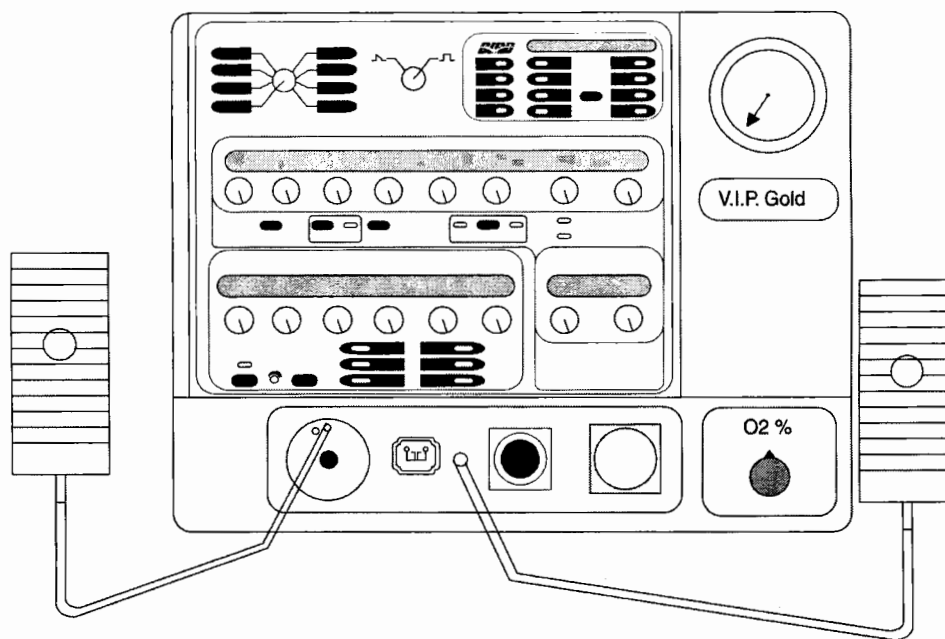

Figure 5.5
- 10.1 Take off the Exhalation Valve Body. Connect a flow tube to the Exhalation Pressure Port. (See figure 5.5).
- 15.2 Connect two tubes of the Transducer Test Harness (P/N 10388) to the Auto Zero Manifold exhaust ports (See Test Figure 5.5 "A"). Refer to schematic 90765. Remove tube #35, attach the test harness to the Machine transducer. Tee in Master manometer as shown in Test Figure 5.